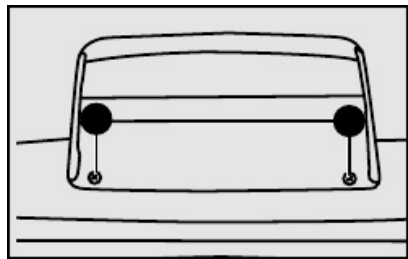

fig. 36
1) com a tampa traseira aberta, retirar os parafusos **A**-fig. 36 e remover o brake-light;